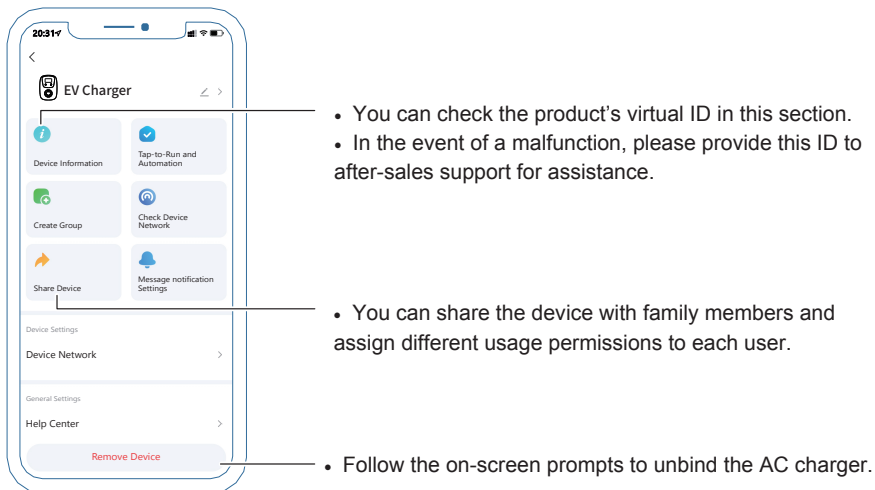

Fig.4
- Tap the “Edit” icon in the upper right corner of the screen to access the background management page. For detailed operations, please refer to Fig. 4.